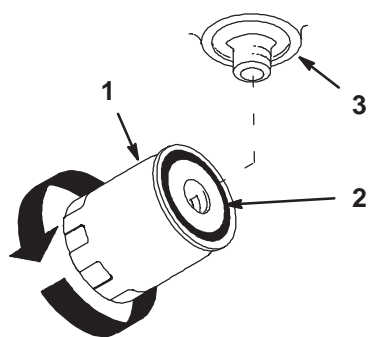

Figure 53
4. Apply a thin coat hydro fluid to the rubber gasket on the replacement filter (Fig. 53).
7. When fluid overflows filter turn the oil filter clockwise until the rubber gasket contacts the filter adapter, then tighten the filter an additional 1/2 turn (Fig. 53).